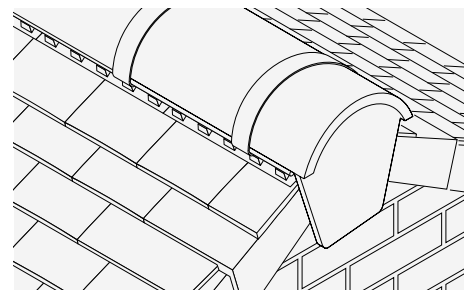

Fig. 11 – Lay special block end ridge
- 9 Lay special block end segmental ridge either bedded in mortar or mechanically fixed by use of Marley dry ridge system (Fig. 11).